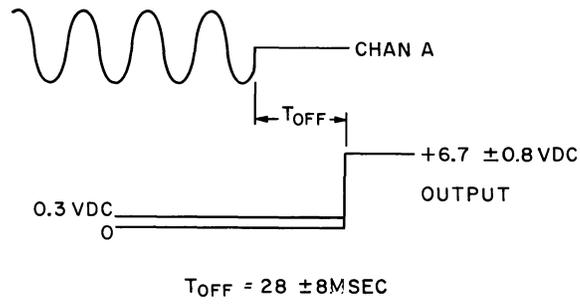

Fig. 12 - (Single Frequency Detector Test)
(6) Set the scope EXT SYNC TRIGGER to the (+) position. The output wave form at terminal 14 shall be as specified in Fig. 12.